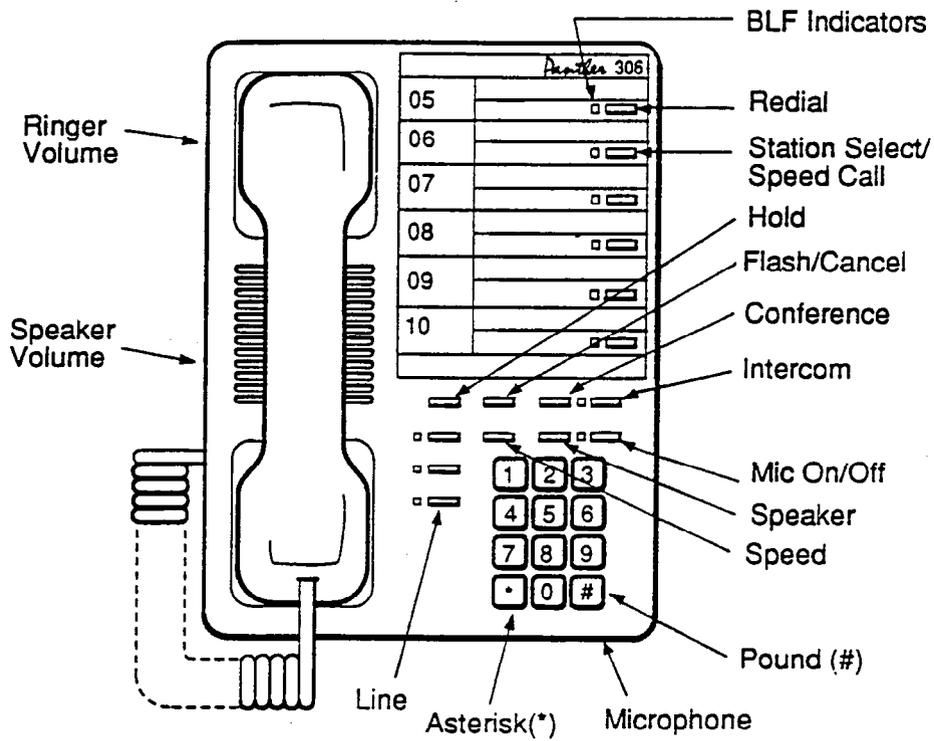

FIGURE 2-1 PANTHER 306 HF/BLF TELEPHONE SET
2.02 The keys and indicators of various Sets are shown in Figures 2-1 through 2-7.